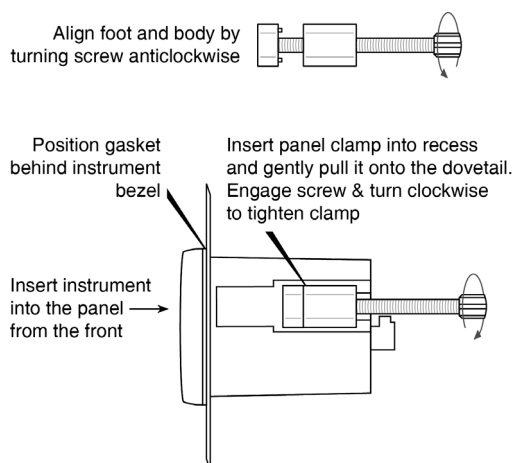

Fig 12 Fitting panel mounting clamps
- Place a clamp in the recess on each side of the instrument, pulling gently to slide it onto the dovetail as shown in Fig 12. Push the knurled screw slightly forward to engage the thread and tighten by turning clockwise until it is just finger tight. When the clamps are fitted ensure that the gasket behind the front panel bezel is correctly positioned before fully tightening the clamps to secure the instrument. The maximum recommended clamp tightening torque is 22cNm (1.95 lbf in) which is approximately equivalent to finger-tight plus one half turn. **Do not over tighten.**